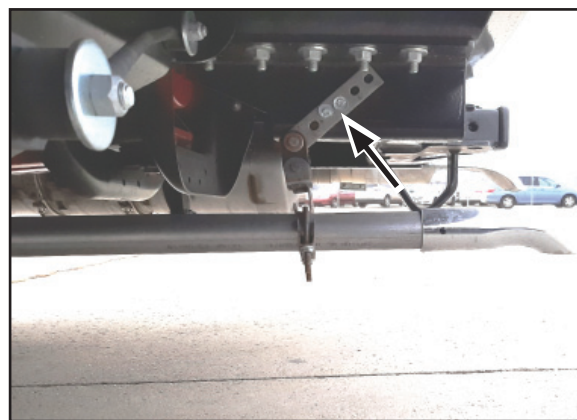

Figure 7
8. Locate and remove the rear hanger bracket by removing its upper fasteners. These are typically located on the side of the trailer hitch frame. See Figure 7. Set aside the hanger for future reinstallation.